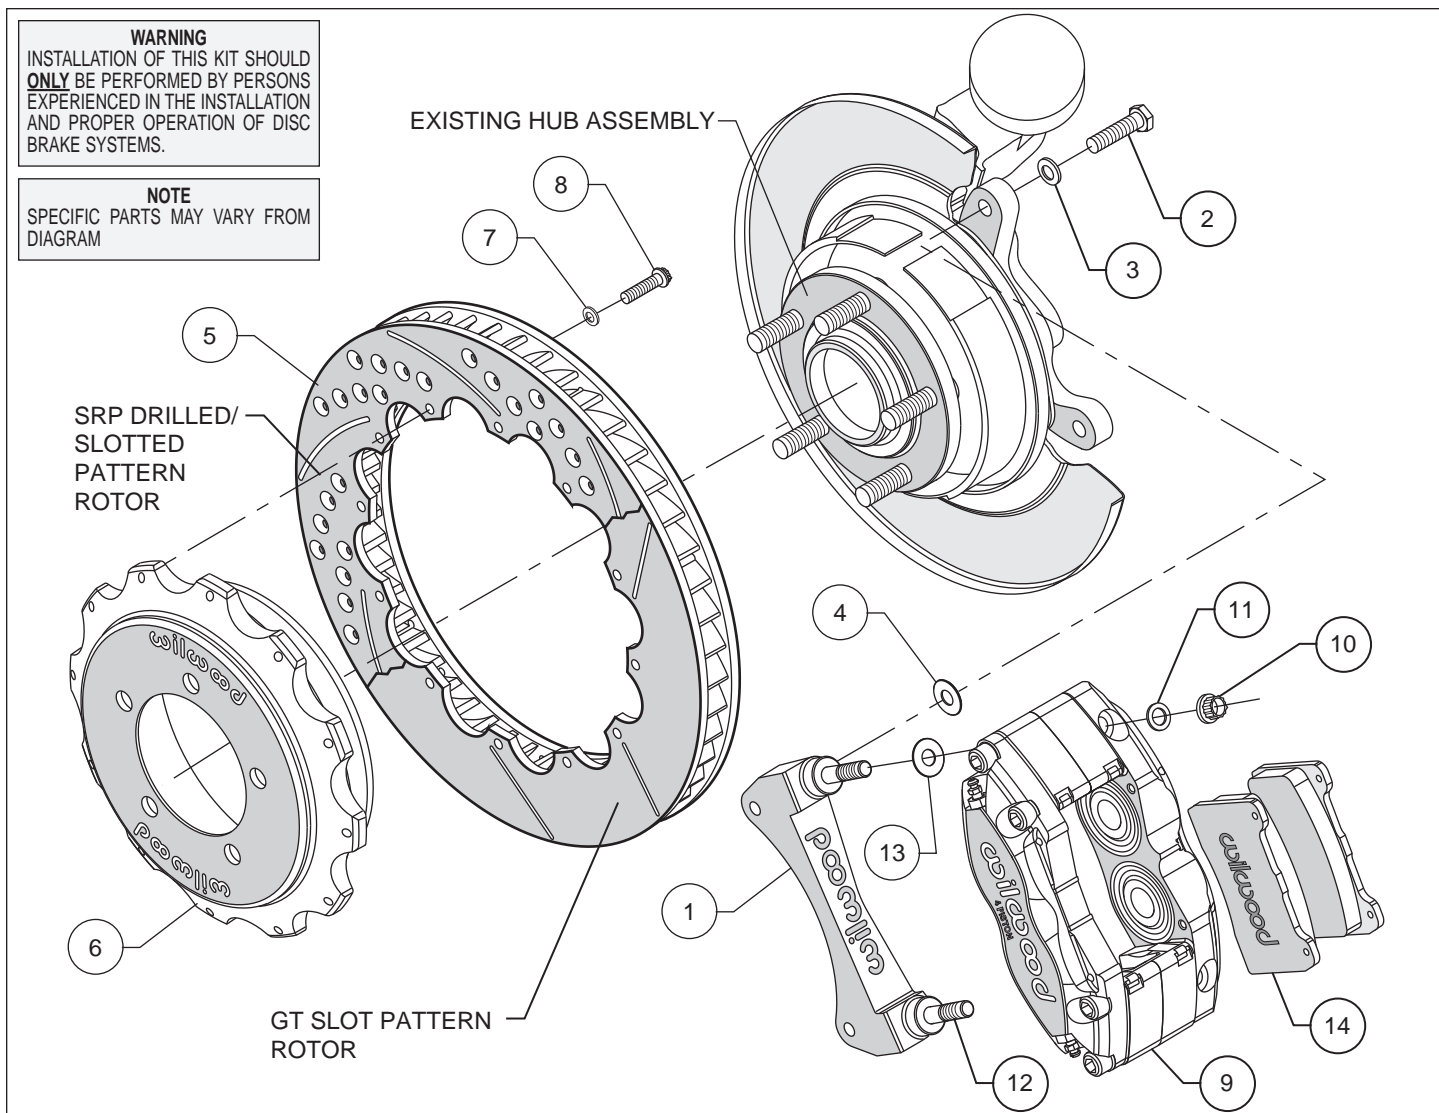
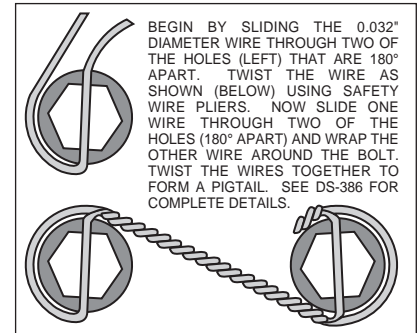

Figure 1. Typical Installation Configuration
Figure 3. Safety Wire Diagram
- The caliper mount bracket assembly (1) should be installed first with clean, dry threads on the mounting bolts. Install the bracket on the outboard side of the hub by sliding bolt (2) through washer (3), then through the OEM caliper mounting bracket ears, shim washer (4) and into the bracket (1). The bracket must tighten squarely against the outboard side of the caliper mount bosses on the upright. Inspect for interference from casting irregularities, machining ridges, burrs, etc. Use one thin shim (4) between the bracket and upright during initial trial fitting. Later, after the caliper alignment has been checked, the mounting bolts will be secured red *Loctite*® 271.
- Assemble the rotor (5) to the hat (6) with the bolts (8) and washers (7) as indicated in the configuration pictured in Figure 1. Using an alternating sequence, apply red *Loctite*® 271 to the threads and torque bolts to 140 **in-lb**. For an added measure of security, the bolts may be safety wired using standard 0.032 inch diameter stainless steel safety wire as shown in Figure 3. Please refer to Wilwood's data sheet DS-386 (available at www.wilwood.com/Pdf/DataSheets/ds386.pdf) for complete safety wire installation instructions.